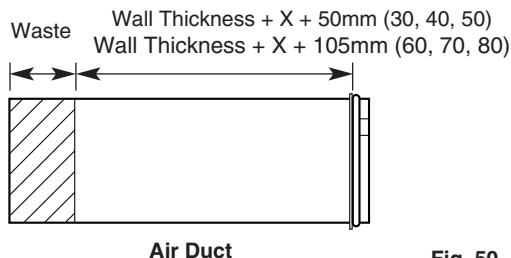

Fig. 50
6. Measure the same amount from the flange end of the **Air Duct** and cut the waste off the plain end (Fig. 50).